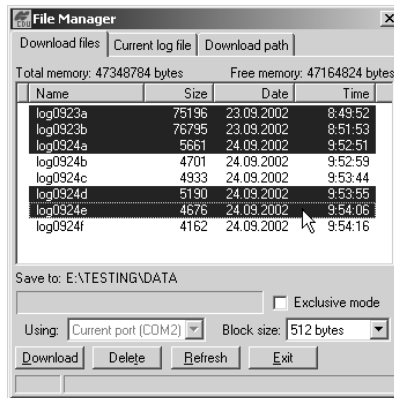

Figure 4-4. Download Files
5. Click the **Download files** tab and select the file(s) to download (Figure 4-4 on page 4-11).